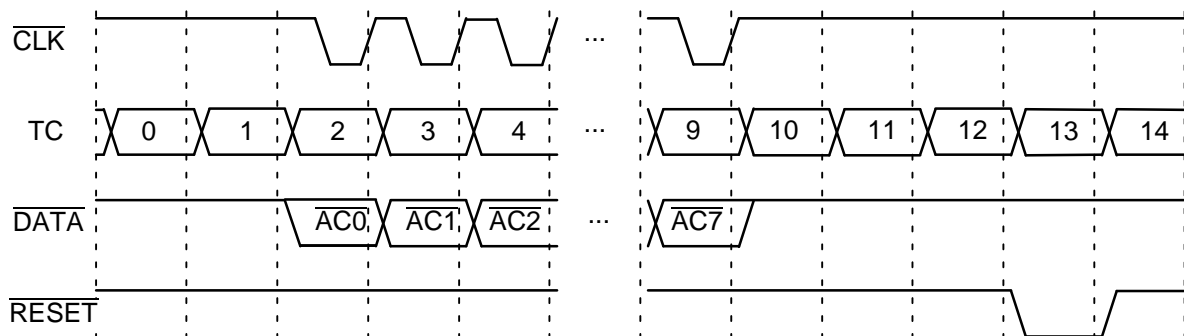

Figure 1: MEA Output Timing
The first task for the decoder board is to receive and write the MEA register values. Figure 1 shows the timing diagram for  $\overline{\text{ME\_OUT\_CLOCK}}$ ,  $\overline{\text{ME\_OUT\_DATA}}$  and  $\overline{\text{ME\_OUT\_RESET}}$ , where  $\overline{\text{CLK}}$ ,  $\overline{\text{DATA}}$  and  $\overline{\text{RESET}}$ , respectively, are used as the signal names. TC is the timer counter value in E8/T. Data in the accumulator (AC) register is shifted out least significant bit first during T2–9. The reset signal goes low at T13.